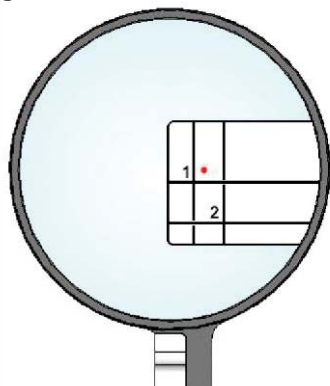

Fig. 13
5. The shooter should see the reflective red dot on the target card in the mirror similar to Figure 13. Aim weapon sight at crosshair.